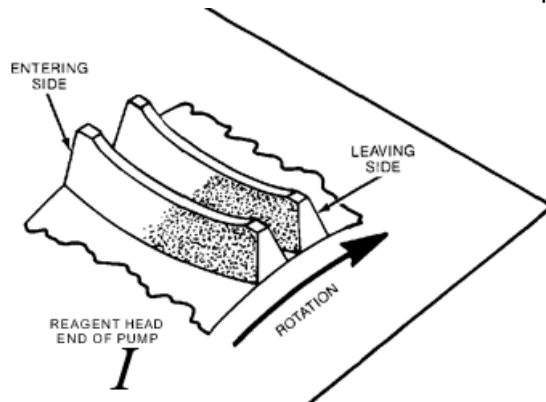

Fig. 58
8. Look at the contact pattern on the driven side of the worm wheel teeth, compare it with Figure 58. Contact should appear in the center of the tooth and continue to the leaving side. If the contact pattern is not correct it can be changed by moving shims from one bearing block to the other. Remove shims on the same end of the shaft as the direction in which you want the contact pattern to move. For example, if the contact pattern is on the entering side of the wheel, remove shims from the bearing block closest to the wheel and place them on the opposite block. A different combination of shims may be used to obtain the proper adjustment however, the total thickness must be the same as determined in Step 4, or the bearing preload will be changed.